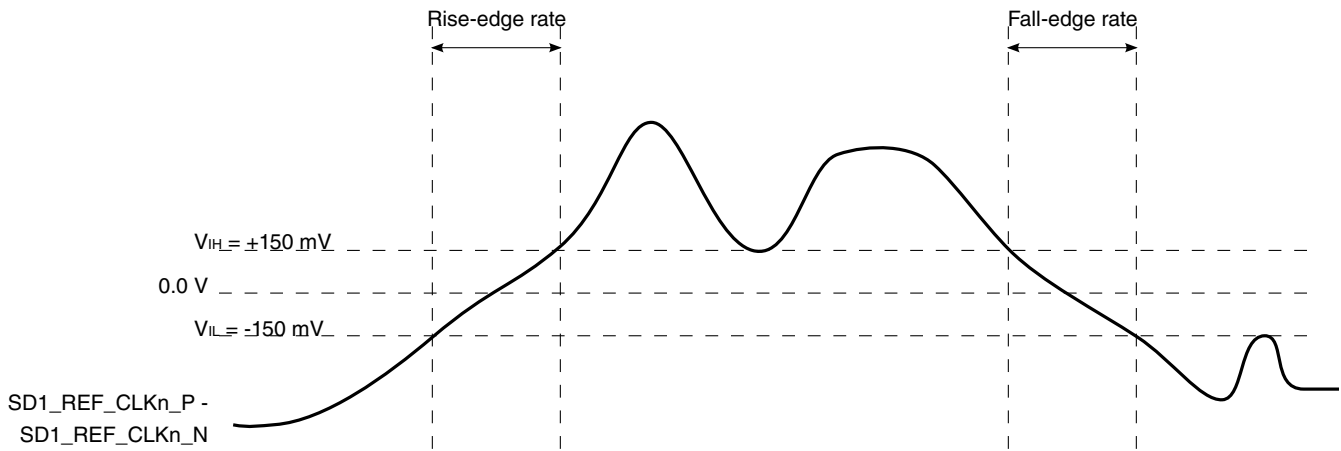

Figure 92. Differential measurement points for rise and fall time
- Measured from -150 mV to +150 mV on the differential waveform (derived from SD1_REF_CLK n _P minus SD1_REF_CLK n _N). The signal must be monotonic through the measurement region for rise and fall time. The 300 mV measurement window is centered on the differential zero crossing. See Figure 92.